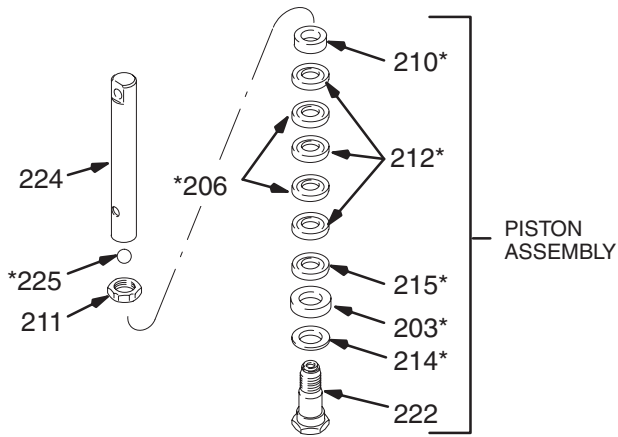

Fig. 25
- Clamp the flats of the piston rod in a vise. Loosen the retaining nut (211). Unscrew the piston valve (222) from the rod. Remove all parts from the piston valve (222). See. Fig 25.
1. Check the outside of the piston rod (224) and the inside of the sleeve (218) for scoring or scratches. If these parts are damaged, new packings will not seal properly. Replace these parts if needed.
2. Stack the backup washer (214), seal (203*), female gland (215*), alternate packings (212*,206*), and then male gland (210*) onto the piston valve (222). See Fig. 25.
3. Tighten the packing retaining nut (211) against the piston valve (222) to 10.5 in-lb (1.24 N.m).